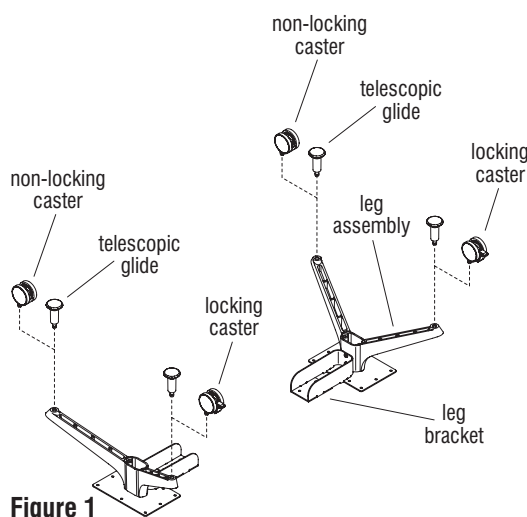

Figure 1
2. Carefully place the leg assemblies upside down on a soft, protective surface with the leg brackets facing each other as illustrated. Orient the legs so the leg brackets on each leg are inline to each other, then determine the front/back side of the leg pair (Figure 1).
1. Locate the locking and non-locking casters. Locking casters are to be installed to the front, user side of each leg assembly, and non-locking casters are to be installed to the rear of each leg assembly. Insert the stem of one locking and one non-locking caster into the caster mounting holes at the underside of each foot. Press in casters fully until each is snug to the bottom of the foot (Figure 1).
1. Press-in fully to install the stem of two telescopic glides into the mounting holes at the underside of each foot (Figure 1).